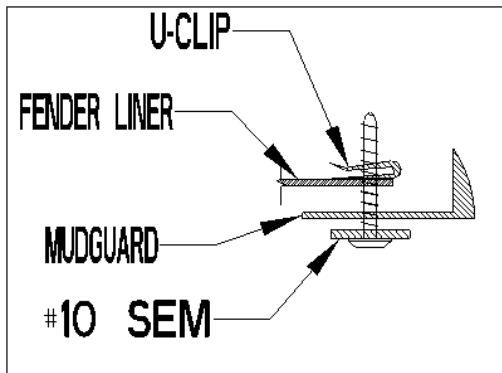

FIGURE 2
4. Starting at hole location A, install SEM screw through the mud guard hole and the new fender liner hole into a U-clip on the back side of the liner. The U-clip will be used as a nut. (See Figure 2).